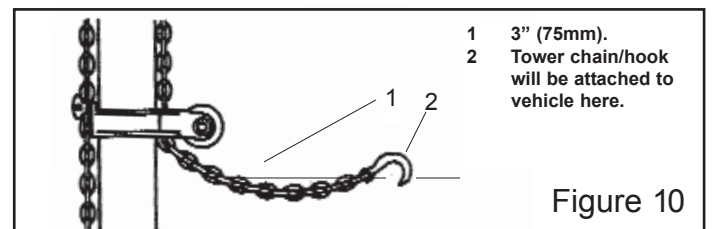

Figure 10
6. Support collar with one hand while loosening collar locking knob with opposite hand. Then position collar approximately three inches (75mm) above desired pulling height and retighten collar locking knob, Figure 10.